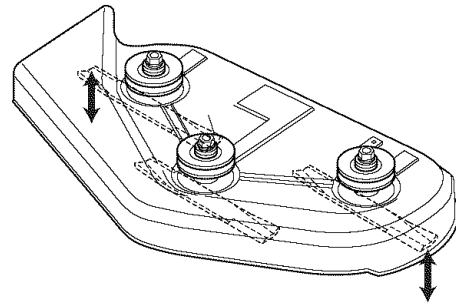

Figure 38. Orient Blades Side-to-Side
4. Set the cutting height to mid position. Arrange the mower blades so that they are pointing from side-to-side (Figure 38).
4. Install the new belt (F) as shown in Figure 38.